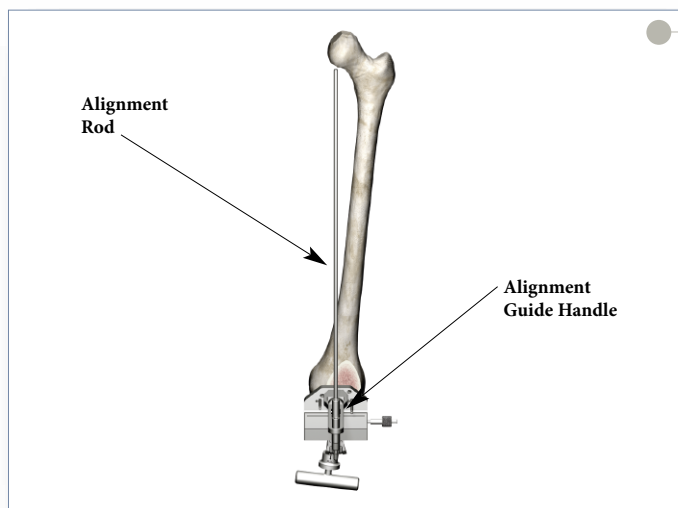

Figure 21
- ▶ Alignment is correct when the rod intersects the center of the femoral head and roughly parallels the axis of the femur in the lateral view (Figure 21).